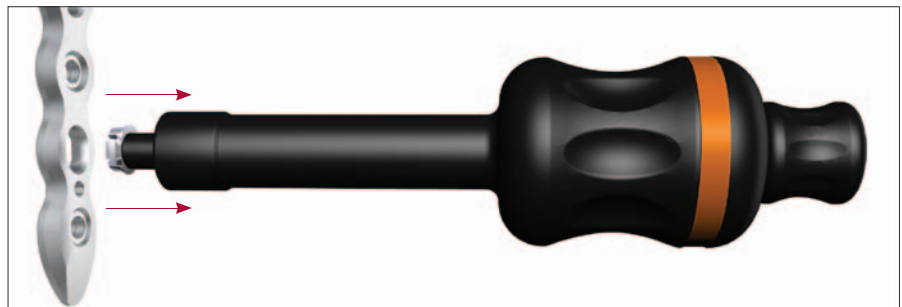

Fig. 2C
Then turn the outer sleeve/collet (B) clockwise until it pulls the Locking Insert out of the plate. The Locking Insert must then be discarded, as it should not be reused (Fig. 2C).